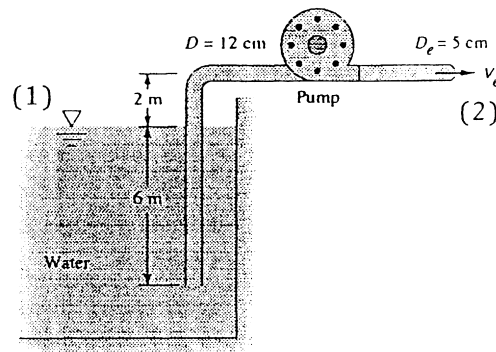

Fig. P3.130
3.130 When the pump in Fig. P3.130 draws $220 \text{ m}^3/\text{h}$ of water at 20°C from the reservoir, the total friction head loss is 5 m . The flow discharges through a nozzle to the atmosphere. Estimate the pump power in kW delivered to the water.
3.131 When the pump in Fig. P3.130 delivers 25 kW of power to the water, the friction head loss is 4 m . Estimate (a) the exit velocity; and (b) the flow rate.